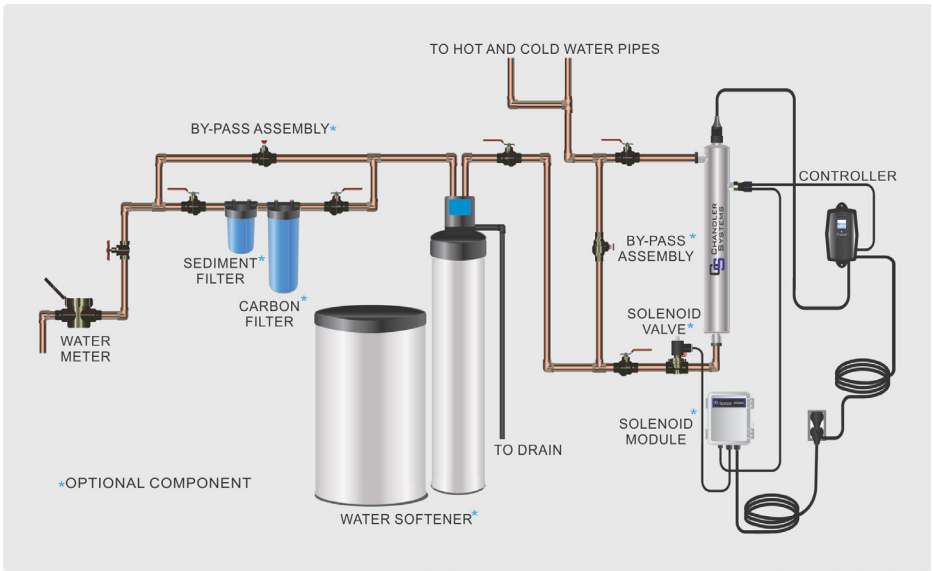

Figure 1. Recommended POE Installation Location
For Point of Entry (POE) systems, choose a location where the main cold water line is accessible. The system must be installed after other water treatment equipment (softener or filters), but before any branches (See Figure 1). For Point of Use (POU) systems, install the unit just before the faucet. CHANDLER recommends that a 5 micron filter be installed **before** the UV system for a final polishing step before the water is disinfected.
Step 10: Mount the controller to the wall so it is above or beside the reactor to ensure that no moisture can deposit on any of the connections (see Figure 1). Always mount the controller vertically. For monitored systems, insert the sensor connector into the IEP port located on the right side of the controller (Figure 6). For the sensor to be recognized by the controller, the controller power must be plugged in last. **Do not plug the controller power cord in before the last step.**